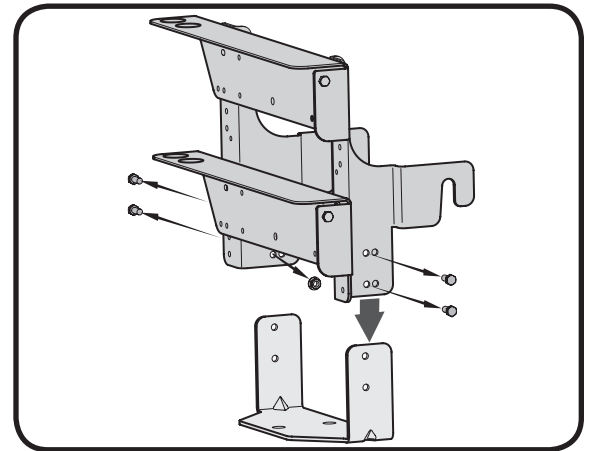

Figure 14
1. Remove the two nuts and screws on each side of the mounting bracket holding the hitch plate. See Figure 14.